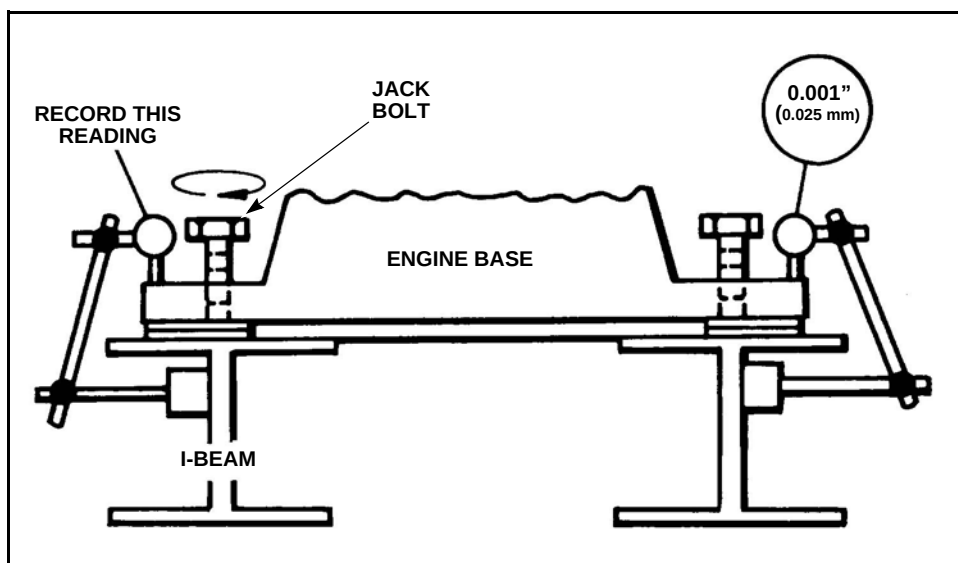

Figure 2-9 Record the Left Free Corner Indicator Reading
3. Using the jack screw, raise the left free corner of the engine until the indicator on the right free corner reads 0.001 in. (0.025 mm). Record the left free corner indicator reading (see Figure 2-9). Lower the left free corner of the engine back onto its shim pack.